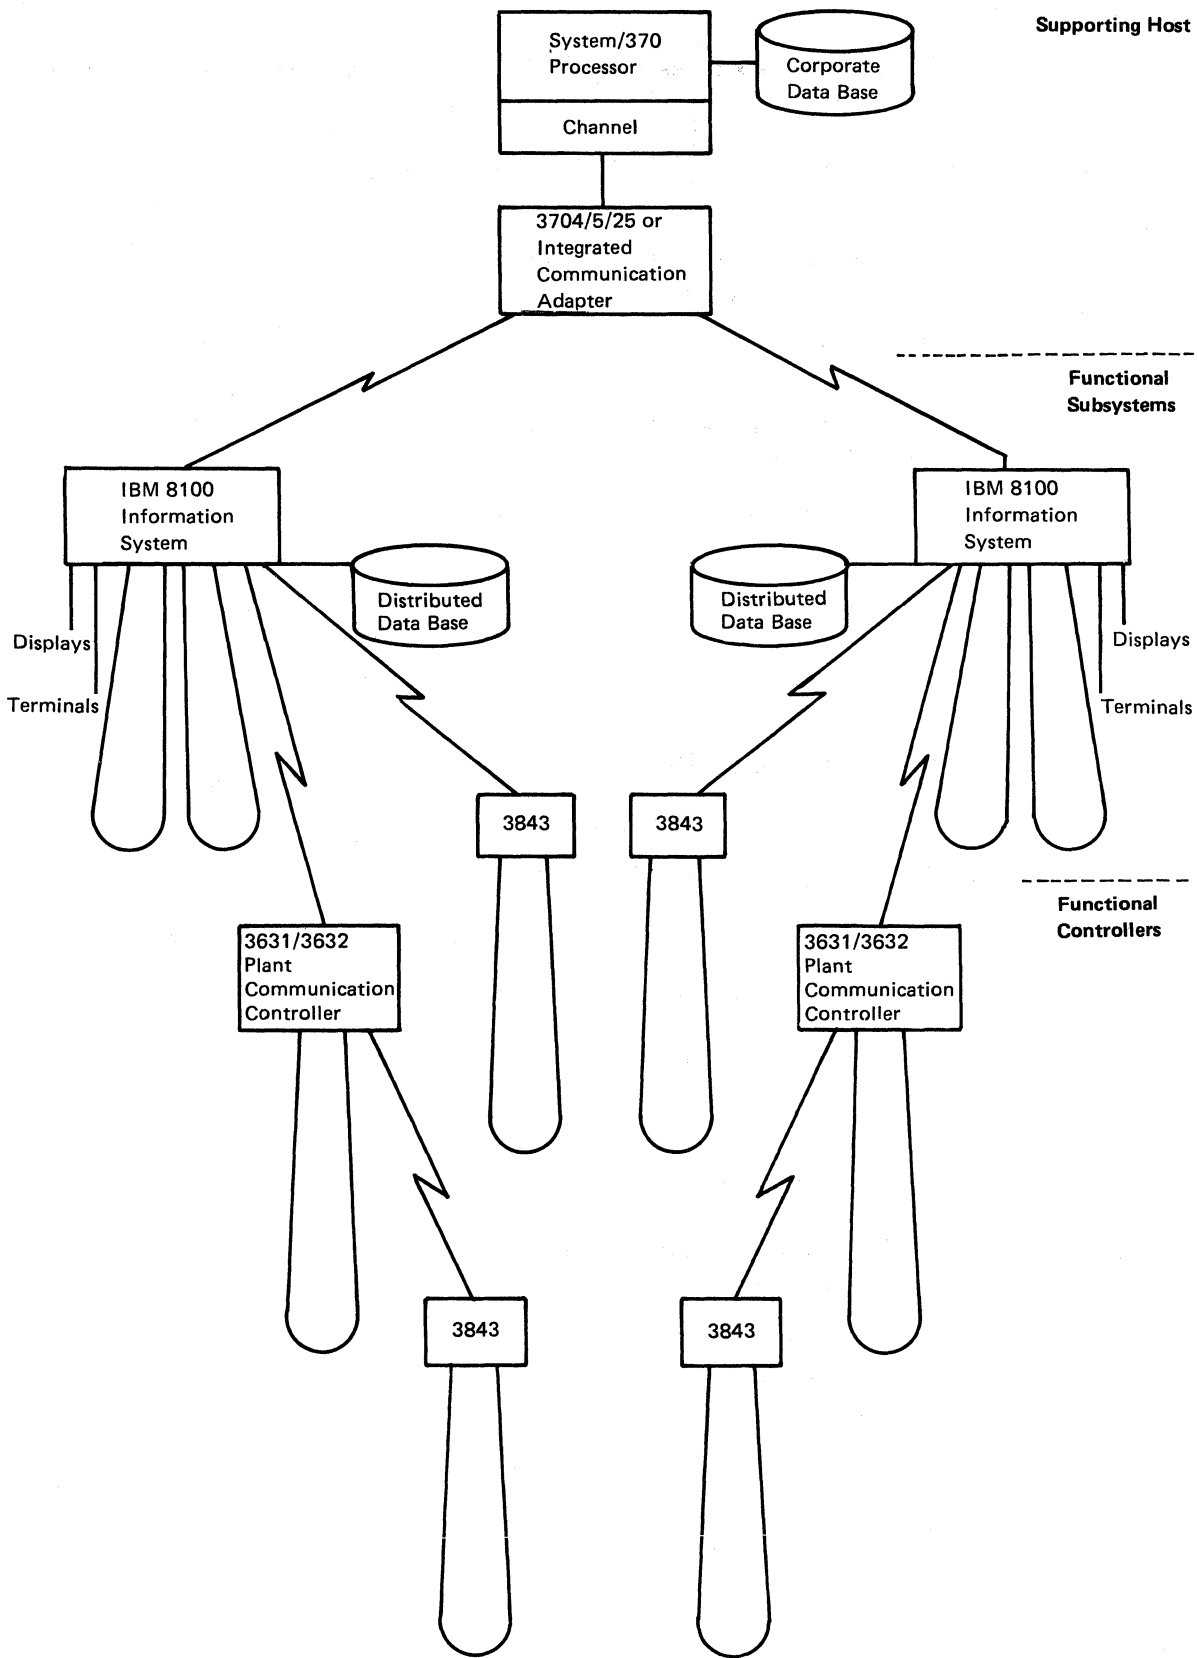

Figure 9-1. Distributed Systems Network
The IBM 8100 Information System supports a wide variety of line protocols, line speeds, and communications facilities to meet requirements of price and performance in data communications. The 8100 system supports synchronous data link control (SDLC) and binary synchronous communications (BSC) protocols over both conventional analog and digital transmission facilities. Start-stop (SS) is also supported over the conventional analog facility. The alternatives for data communication between remote processors and for data communication between processors and remote devices are shown in Figure 9-1. For a detailed description of the 8100 System's communications capabilities, see *IBM 8100 Information System: Communications, Loop, and Display/Printer Attachment Description*, GA27-2883.